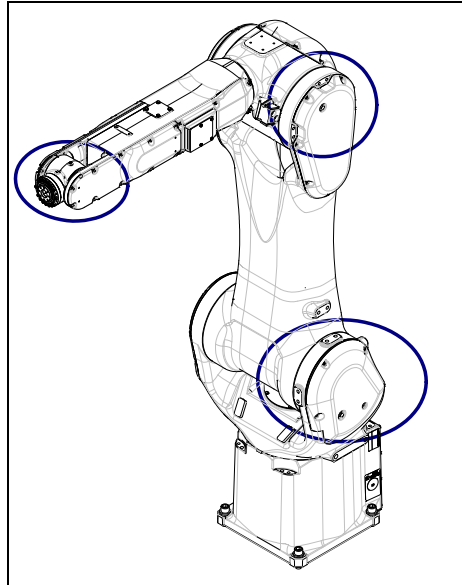

Fig. 7.2.1 Check parts for oil seepage
- Oil might accumulate on the outside of the seal lip depending on the movement condition or environment of the axis. If the oil viscosity changes, the oil might drip depending on the axis movement. To prevent oil spots, be sure to wipe away any accumulated oil under the axis components in Fig. 7.2.1 before you operate the robot.